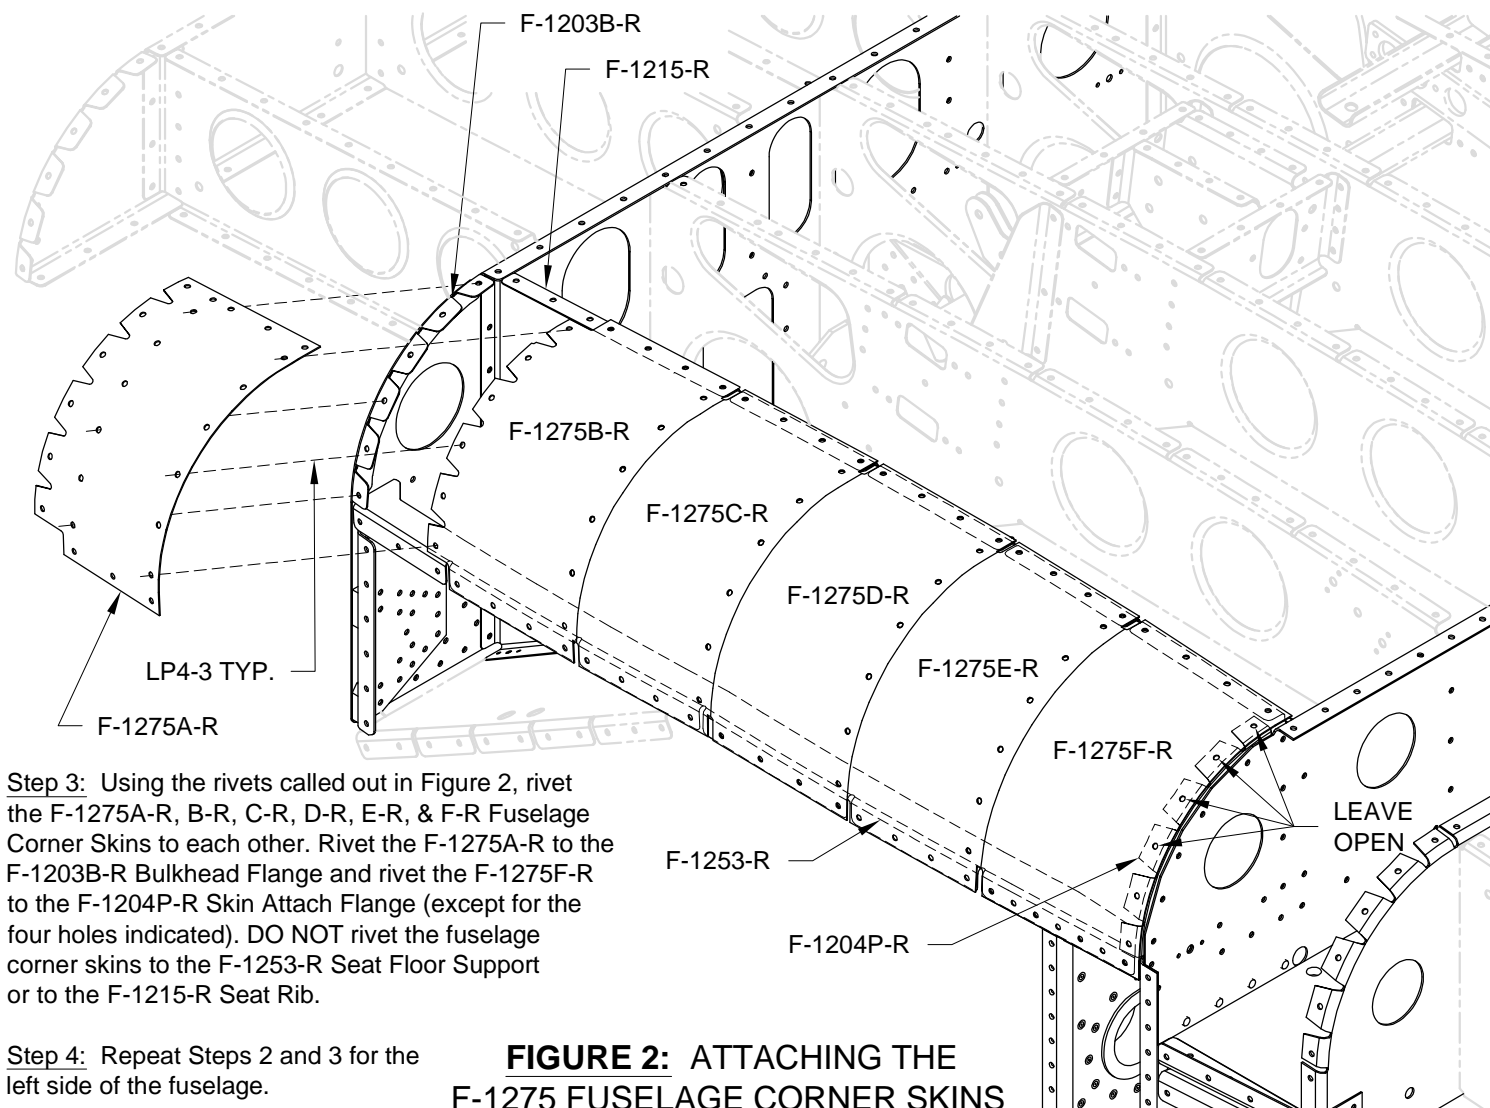

FIGURE 2: ATTACHING THE F-1275 FUSELAGE CORNER SKINS
Step 2: Turn the fuselage upside-down on a pair of saw horses. As shown in Figure 2, cleco the F-1275F-R Fuselage Corner Skin to the F-1253-R Seat Floor Support, the F-1215-R Seat Rib, and the F-1204P-R Skin Attach Flange. Then, one after the other, cleco in place the F-1275E-R, D-R, C-R, B-R, & A-R Fuselage Corner Skins as shown.
Step 3: Using the rivets called out in Figure 2, rivet the F-1275A-R, B-R, C-R, D-R, E-R, & F-R Fuselage Corner Skins to each other. Rivet the F-1275A-R to the F-1203B-R Bulkhead Flange and rivet the F-1275F-R to the F-1204P-R Skin Attach Flange (except for the four holes indicated). DO NOT rivet the fuselage corner skins to the F-1253-R Seat Floor Support or to the F-1215-R Seat Rib.